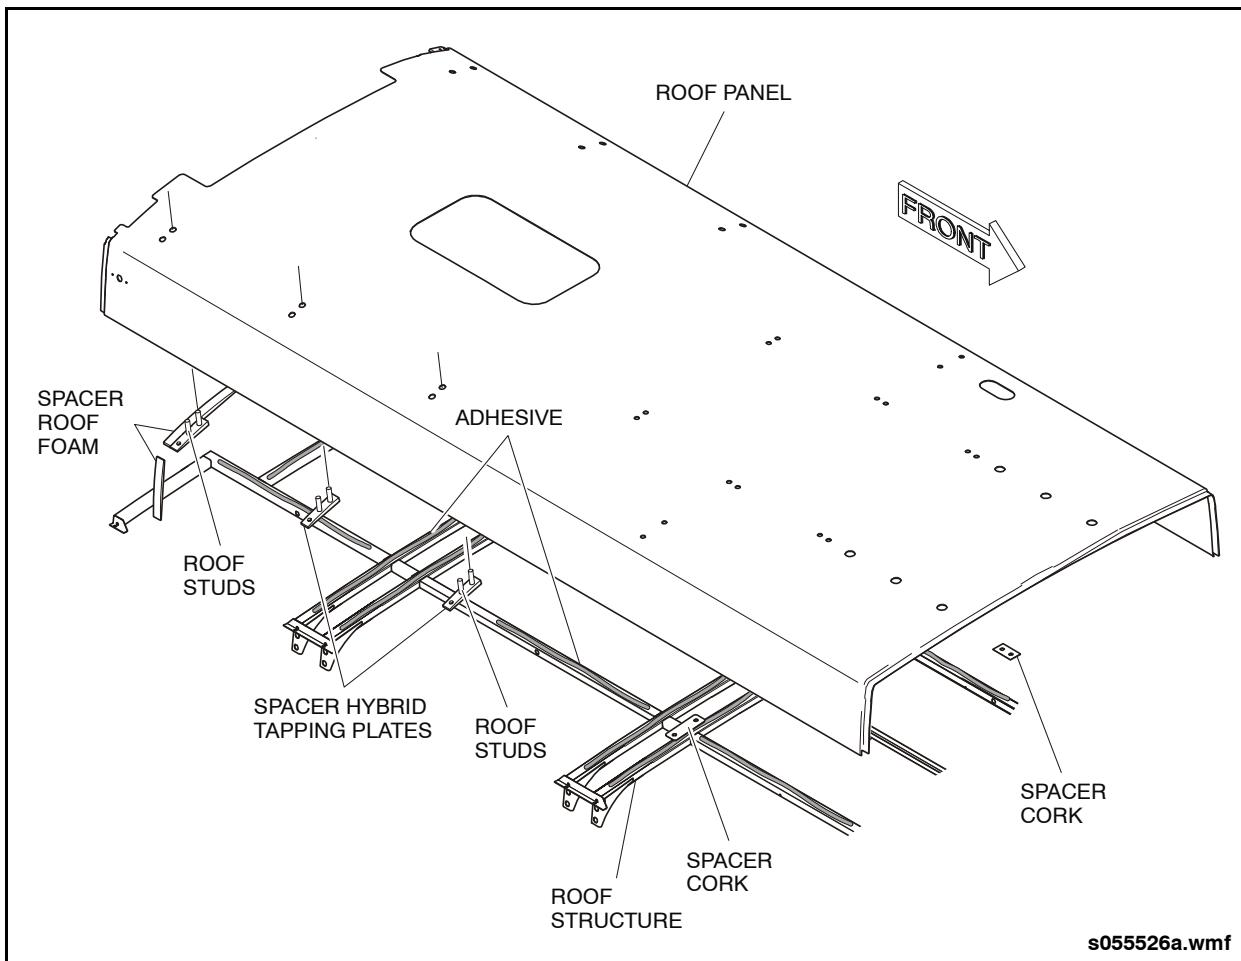

Fig. 13-6: Roof Panel Installation
1. Ensure that exterior pier panels, roof insulation, and antenna ground planes are installed. Install cork spacers to vehicles with roof top studs. See "Fig. 13-6: Roof Panel Installation" on page 22.